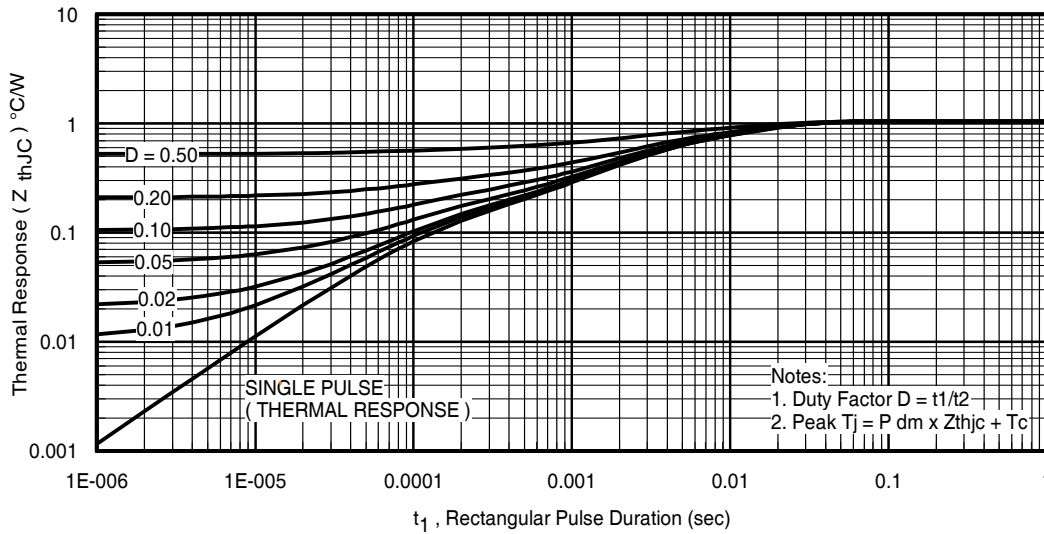

Fig 14. Maximum Effective Transient Thermal Impedance, Junction-to-Case
Notes on Repetitive Avalanche Curves, Figures 14, 15:
7.  $\Delta T$  = Allowable rise in junction temperature, not to exceed  $T_{jmax}$  (assumed as 25°C in Figure 14, 15).